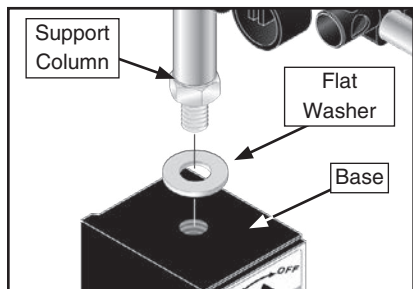

Figure 5. Magnetic base assembly.
2. Thread the support column into the magnetic base, as shown in **Figure 5**, and tighten the jam nut against the washer.